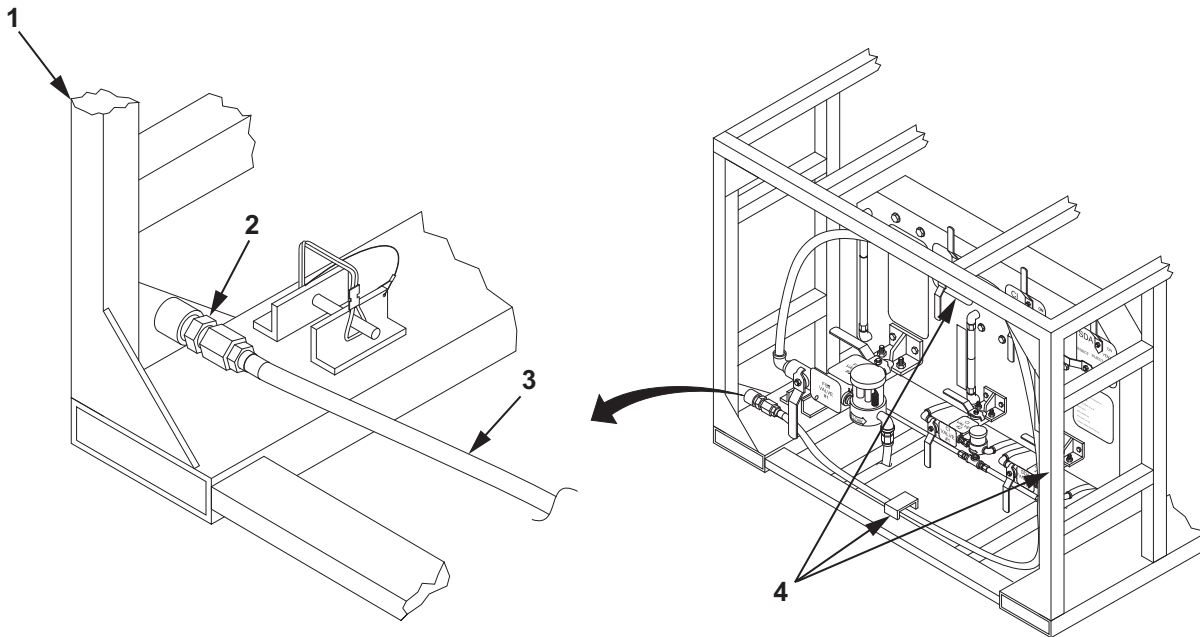

Figure 22. FSII Additive Hose Assembly.
2. Disconnect end of the FSII 3/4 in. flex line (Figure 22, Item 3) from the storage connector (Figure 22, Item 2) on the fuel additive injection system frame (Figure 22, Item 1).
3. Remove the FSII 3/4 in. flex line (Figure 22, Item 3) from the frame clips (Figure 22, Item 4).
- d. Connect the end of FSII 3/4 in. flex line (Figure 22, Item 1) to the FSII fuel additive shutoff valve (Figure 23, Item 3).